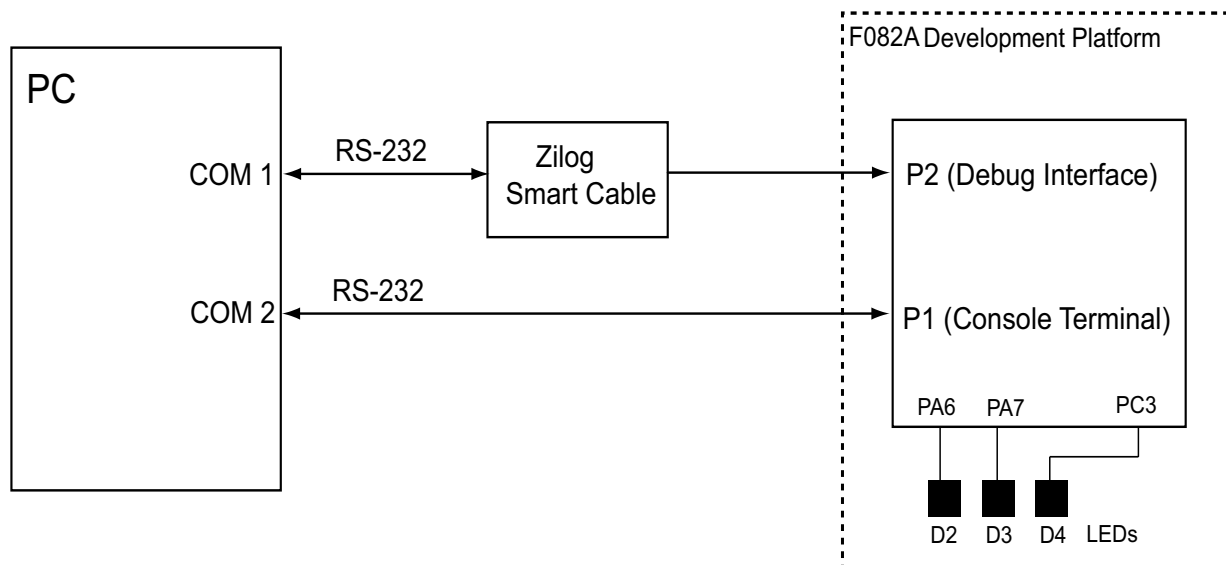

Figure 1. Basic Setup to Run the Temperature Sensor Demo
Figure 1 displays the basic setup for the Temperature sensor demonstration using the F082A Series Development Kit and a PC with a HyperTerminal application.
1. Connect the F082A Series Development Platform to the PC as displayed in Figure 1.